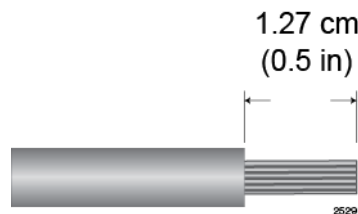

Figure 114. Stripping the Stranded Grounding Wire
1. Prepare an adequate length of stranded 10 AWG grounding wire by stripping it as shown in Figure 114.